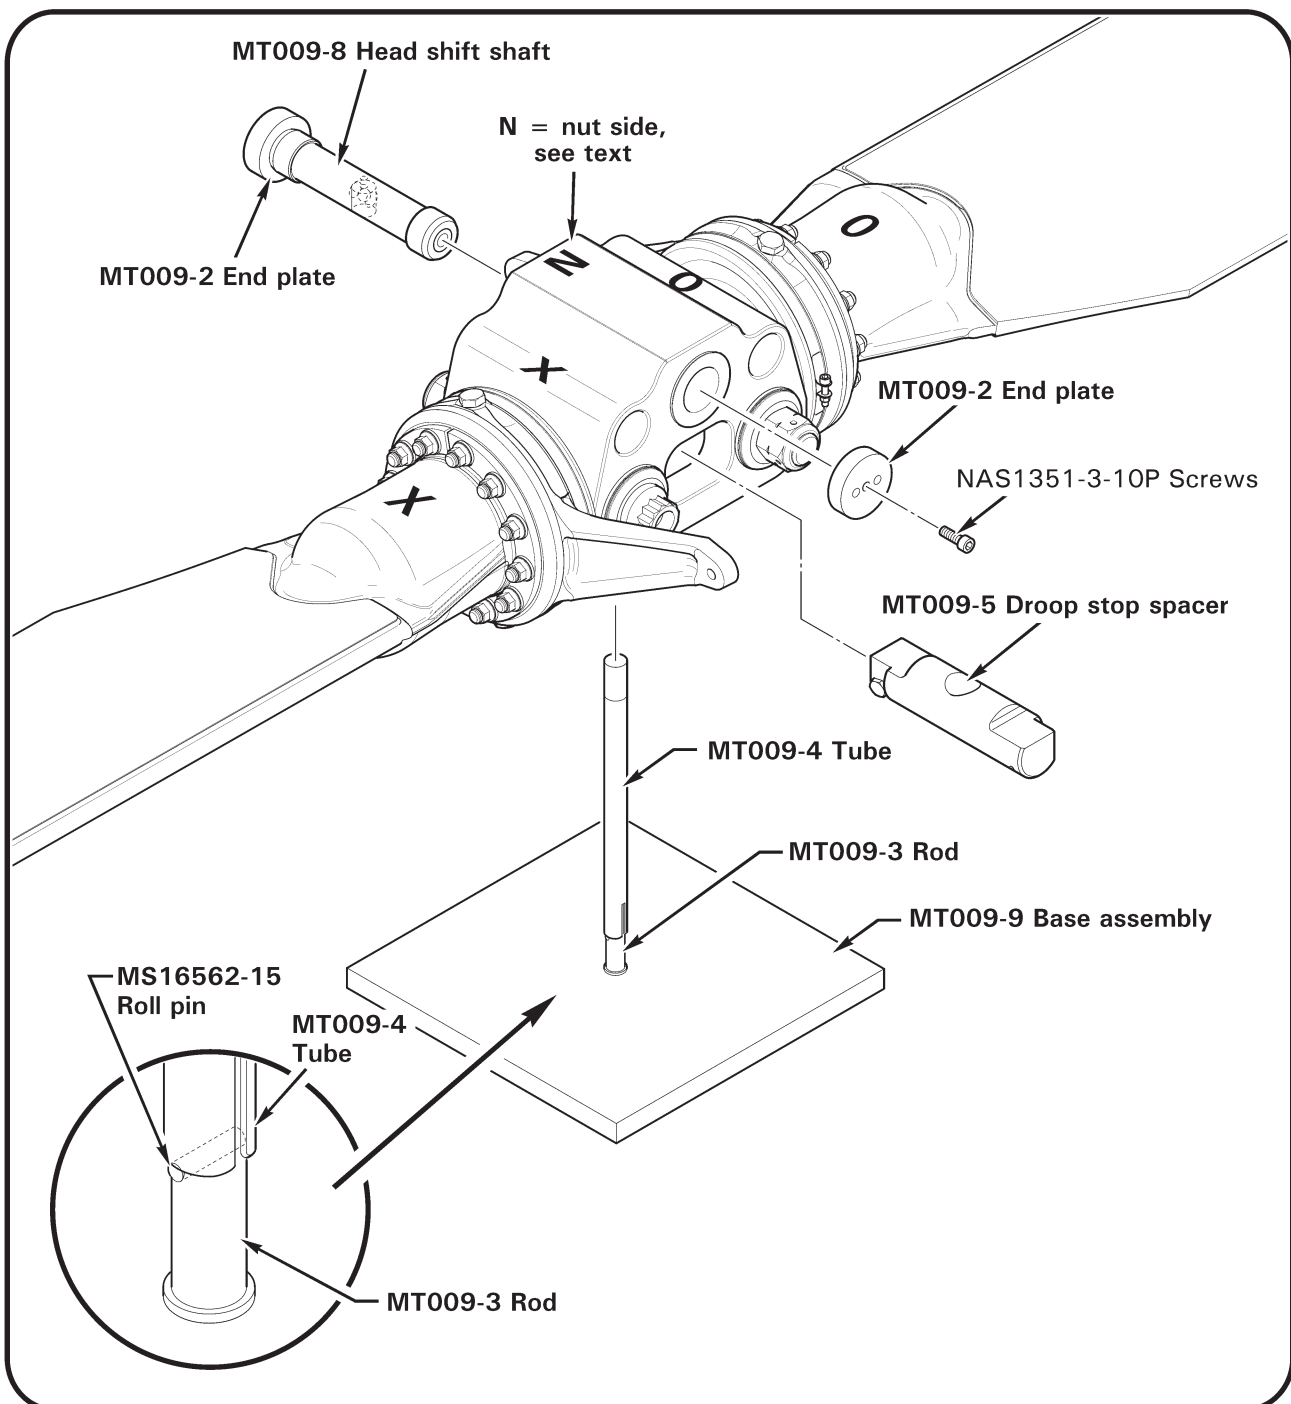

FIGURE 2-20 MT009-10 MAIN ROTOR STATIC BALANCE FIXTURE ASSEMBLY
3. Refer to Figure 2-20. Install MT009-10 main rotor static balancing fixture assembly in hub as shown. Hoist main rotor assembly and position on MT009-9 base assembly.